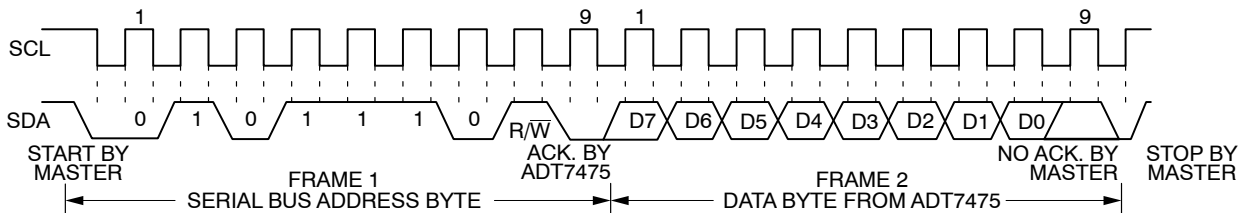

Figure 15. Reading Data from a Previously Selected Register
A read operation is then performed consisting of the serial bus address; the $R/\overline{W}$ bit set to 1, followed by the data byte read from the data register see Figure 15.
2. If the address pointer register is known to be already at the desired address, data can be read from the corresponding data register without first writing to the address pointer register see Figure 15.